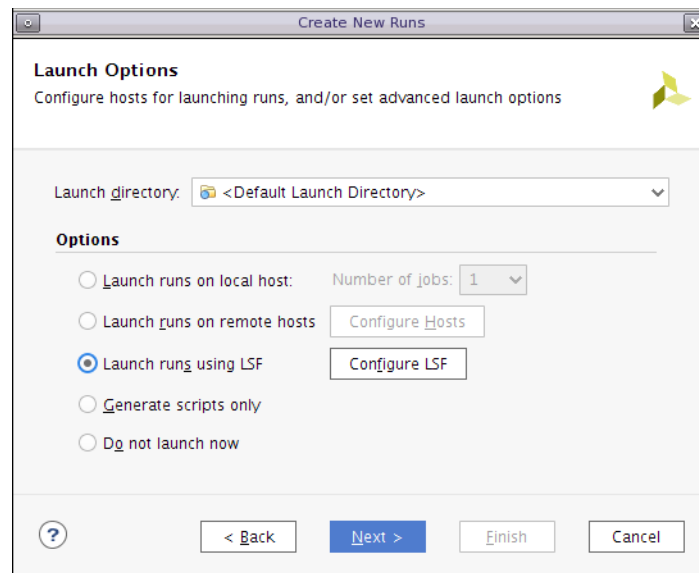

Figure 2-2: Implementation Launch Options
4. The Launch Options screen appears, as shown in Figure 2-2. Specify options as described in the steps below the figure.
**Note:** The **Launch runs on remote hosts** and **Launch runs using LSF** options shown in Figure 2-2 are Linux-only. They are not visible on Windows machines.